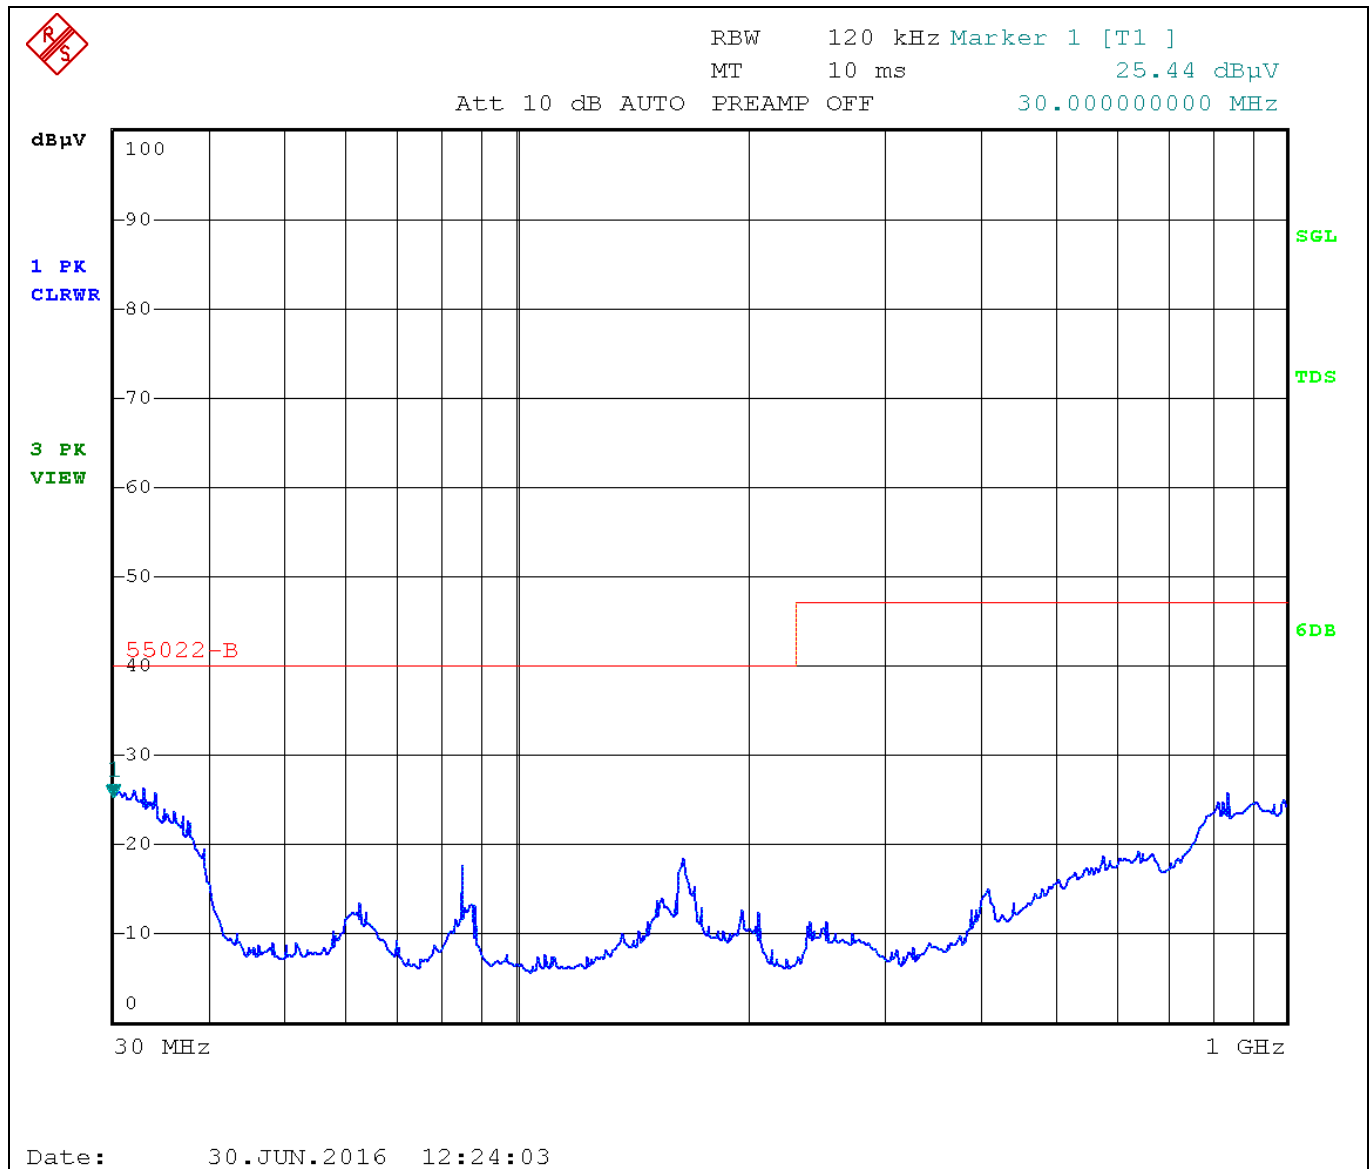

Figure 17 EMI-radiated measurement results. Board positioned toward antenna. Antenna position is vertical.
- Board was positioned toward the antenna and the antenna was vertical (Figure 17)